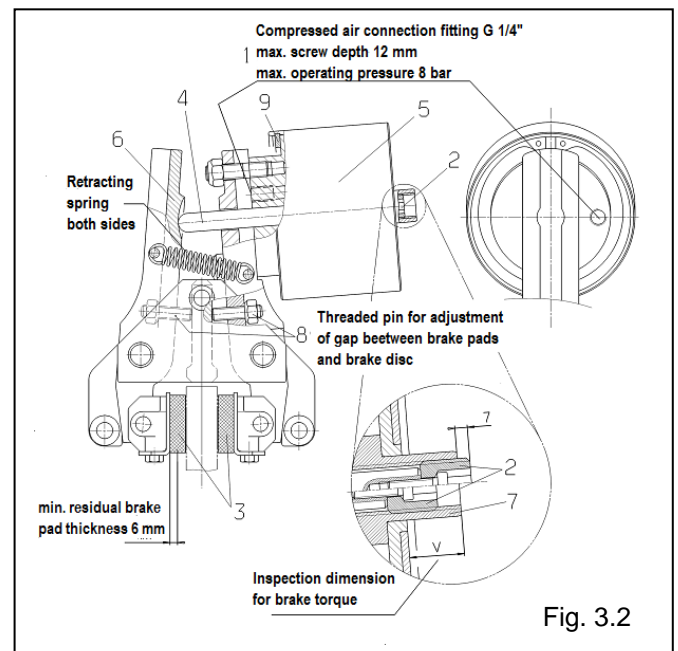

Fig. 3.2
- the DH 030 FPM, brake caliper mounted at a right angle to the brake disc (frame construction H see Fig. 3.2 in Section 3); brake chamber mounted on the right.